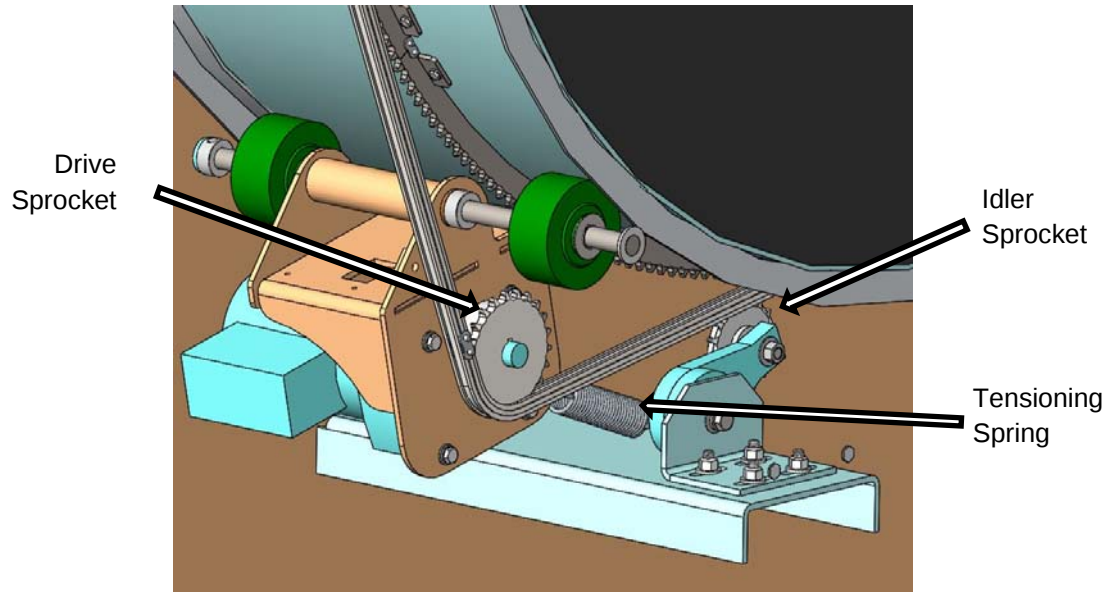
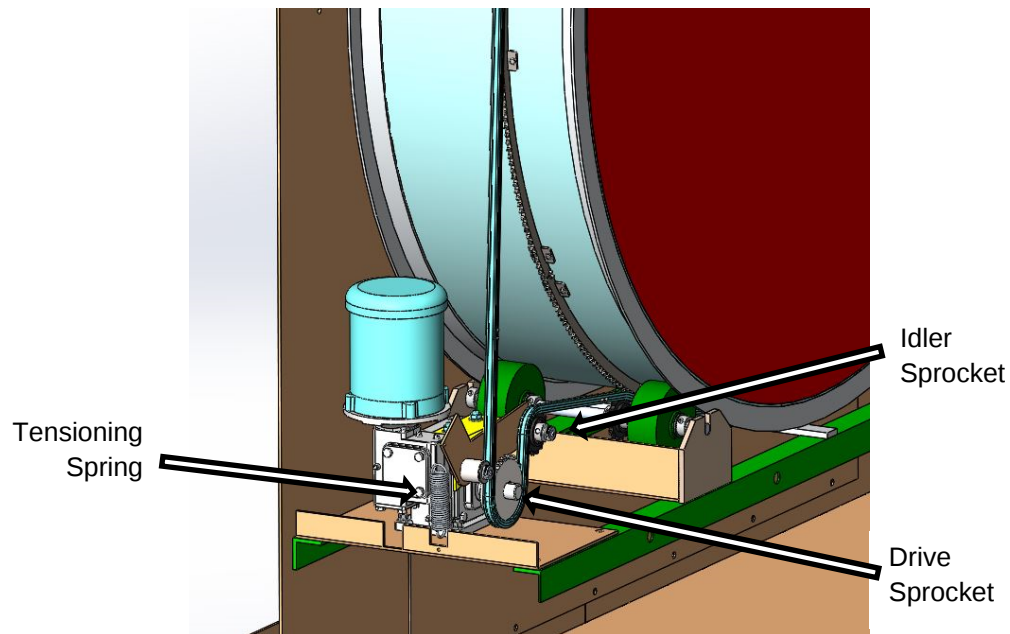

Figure 6-1
Figure 6-2
3. At the front of the machine, remove the tensioning spring and press down on the idler sprocket. See Figure 6-1 and Figure 6-2. This will release the tension on the chain drive. Remove the chain from the drive sprocket, or the belt from the sheave.
2. Figure 6-1 and Figure 6-2 show how the chain is located on the drive sprocket. When the chain is disconnected, try to turn the drive sprocket by hand. The motor shaft should not be able to move side-to-side. There should not be any significant backlash between the drive gears. If either condition exists, replace the motor.